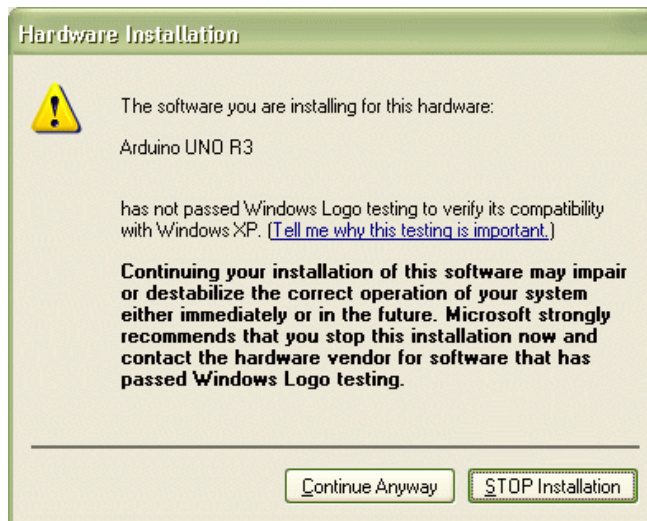

Figure 5: Choose Continue Anyway if you are warned about Windows Logo testing.
- During the driver installation, you may be presented with a warning as in Figure 5; if so, click on *Continue Anyway*.